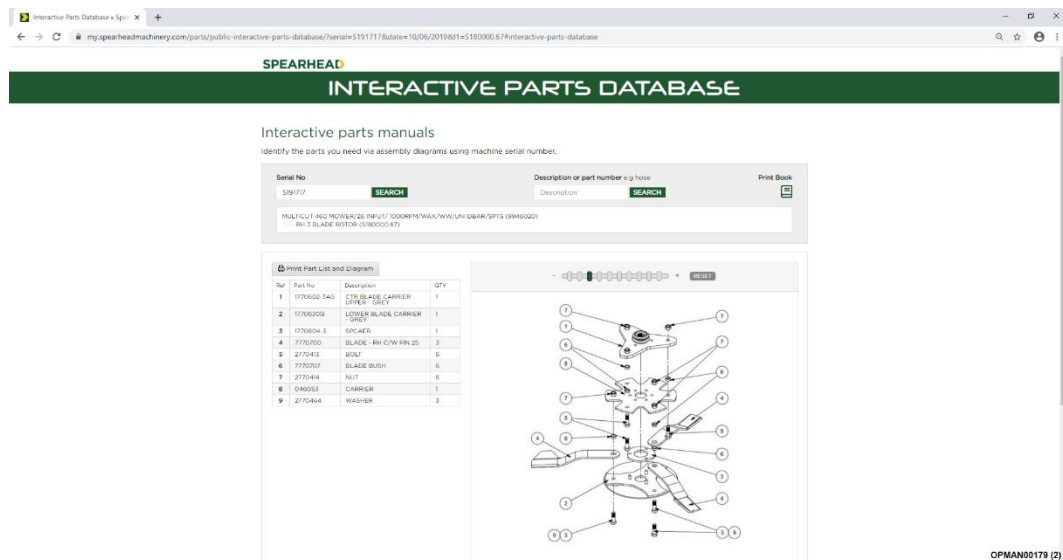

Figure 26 – Exploded Parts Breakdown With Bill Of Materials
- 7.1.1.4 You will finally be presented with a full exploded parts breakdown for that particular assembly, giving part numbers and the quantities required; see Figure 26.